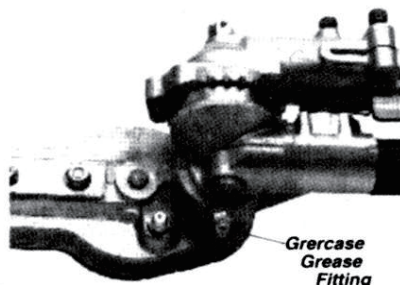

Figure 1
- Slide the gearcase out of the tube. Using a grease gun, pump lithiumbase grease (about 10 grams) into the grease fitting on the gearcase until you see old grease being purged from the gearcase (Figure 1). Purged grease will be visible in the outer tube cavity. Clean up the excess grease, then reassemble the gearcase onto the outer tube. Make sure the index bolt fits into the hole on the outer tube. Securely tighten both bolts.